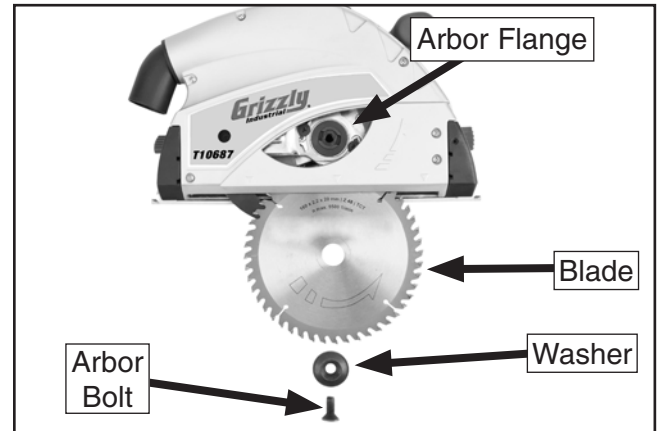

Figure 11. Saw blade and blade-fastening components.
6. Make sure grooves of the arbor washer are correctly lined up with the flange. Thread the arbor bolt and washer into place with your free hand. The correct order of installation is shown below in **Figure 11** for your reference.